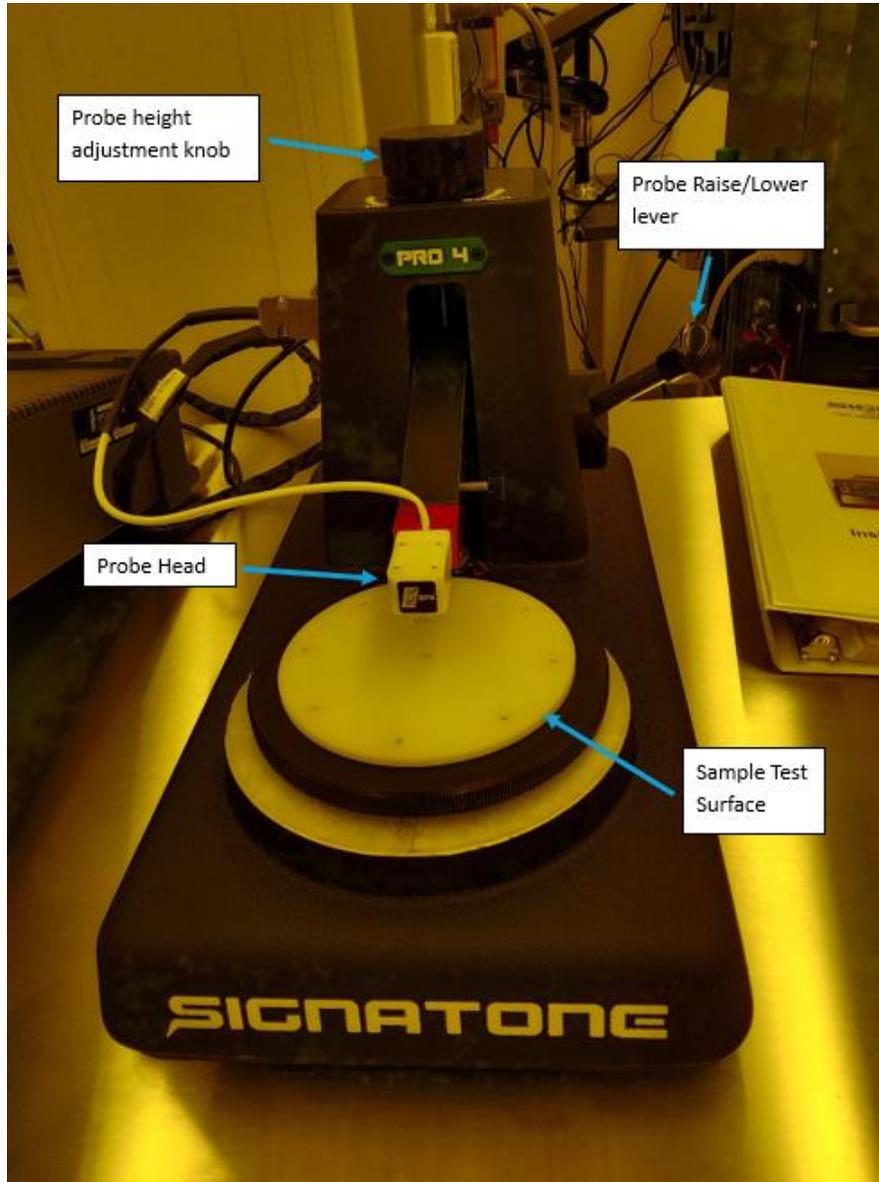

Figure 1. 4 Point Probe
The Pro4 is designed to measure Resistivity and Sheet Resistivity of wafers and other materials. The system includes the test stand with probe head (Figure 1), test meter, software and notebook computer. If there are any questions about the setup of the software or any measurements, please contact a staff member of the NFF.
1. The test stand is shown in Figure 1.